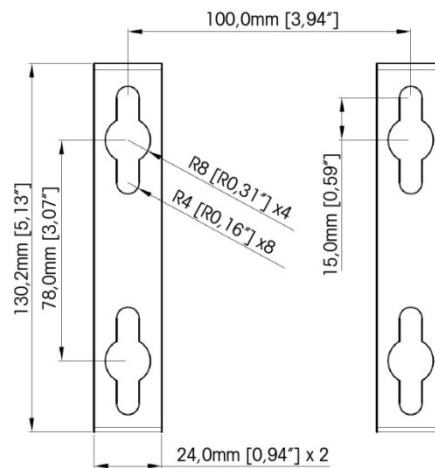
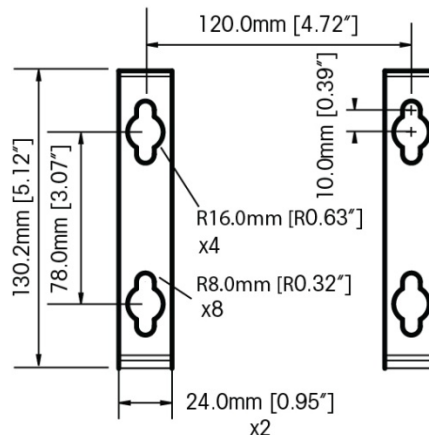

Figure 2-18: VESA 100 x 100mm Wall Bracket Mounting Hole Pattern (In IND570 terminals manufactured after April, 2016)
Figure 2-19: Original Wall Bracket Mounting Hole Pattern (In IND570 terminals manufactured up to April, 2016)
4. Mark the position of the mounting holes on the vertical surface per the dimensions shown in Figure 2-18 and in Figure 2-19 or by holding the terminal up to the surface and marking through the bracket holes.